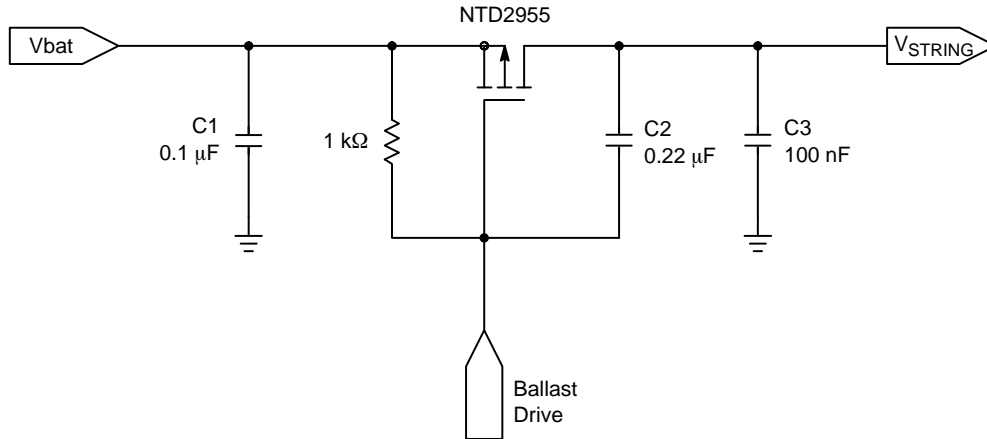

Figure 4. External PFET with external support components including C2
1. The Error amplifier (Ballast Drive) output impedance (comprised of the external 1k resistor in parallel with the Ballast Drive output impedance shown in Figure 4) and the capacitance on that node (primarily influenced by the Miller effect of C2 and NTD2955).	This pole is the majority contributor to the system frequency compensation design in this application and can be used as the control knob for stability. This application utilizes a capacitor across the gate-drain of the FET to make use of capacitance multiplication.